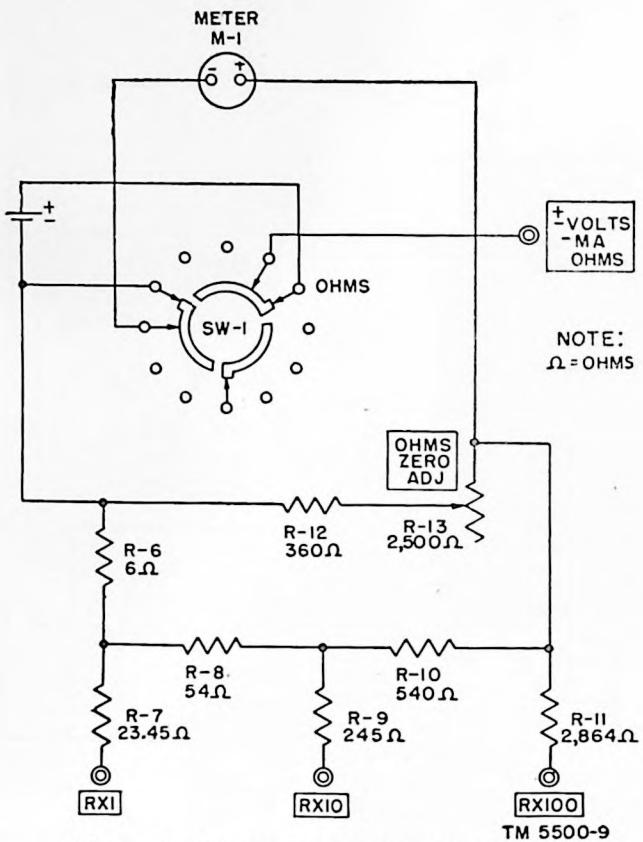

Figure 9. Ohms circuit, schematic diagram.
d. OHMMETER (fig. 9). When the multimeter is used to measure resistance, a shunt composed of resistors R-6, R-8, and R-10 is connected across the meter. One and one-half volts from the battery is applied to the circuit, and additional shunting from resistors R-12 and R-13 adjusts the current through the meter to obtain full-scale needle deflection. The addition of an unknown resistance to the circuit reduces current flow and changes the needle deflection so that the unknown resistance may be measured directly on the meter scale. Resistors R-7, R-9, and R-11 adjust the circuit for correct center-scale readings.